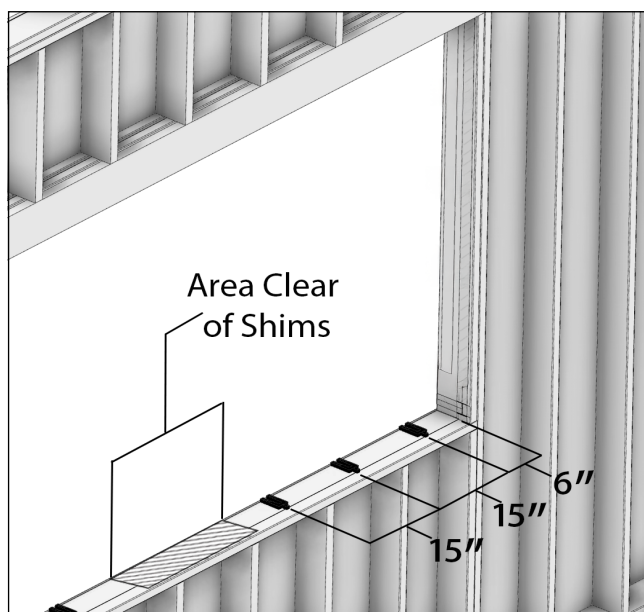

Figure 50
7. Shim unit: 1/16" shims are required to be applied to the sill prior to placing assembly in the RO. Do not shim under gusset plates. Shim spacing is 6" max from corner and 15" max on center. See Figure 50.